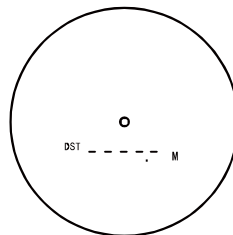

Figure 1
- Press the **POWER/MEASURE** button to turn the device on or off. The rangefinder enters the distance measurement mode by default (Fig. 1).